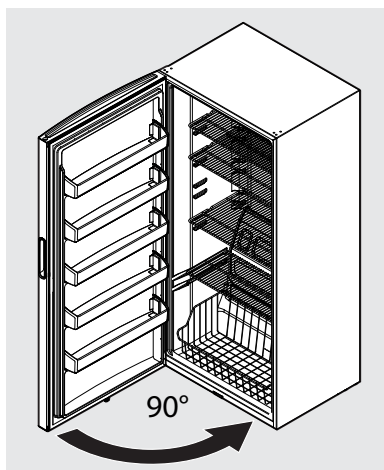

Figure 8
- Slide the door onto the bottom hinge pin at 90° to the freezer cabinet and close the door (see Figure 8).